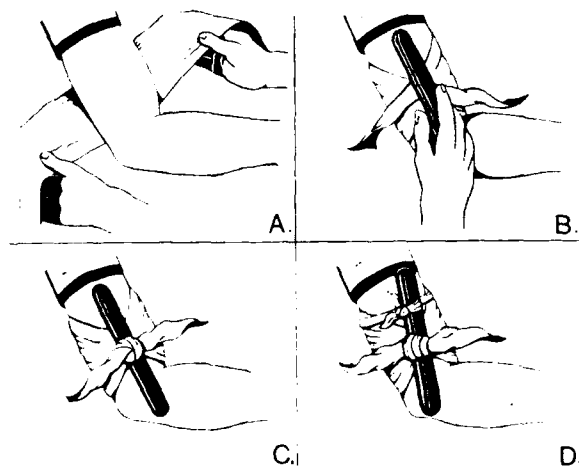

Figure 18-45.—Applying a tourniquet.
To apply an emergency tourniquet made from material resembling a cravat or neckerchief, wrap the material once around the limb, and tie an overhand knot. Place a short stick on the overhand knot, and tie a square knot over it. Then twist the stick to tighten the tourniquet. The stick may be tied in place with another strip of material. Figure 18-45 demonstrates the proper method for applying a tourniquet.
4. To tighten, insert a small stick or smaller object under the cross of the bandage on the shoulder and twist. Twist only until the bleeding is controlled. Then secure or anchor the stick to prevent untwisting (fig. 18-45, view D).